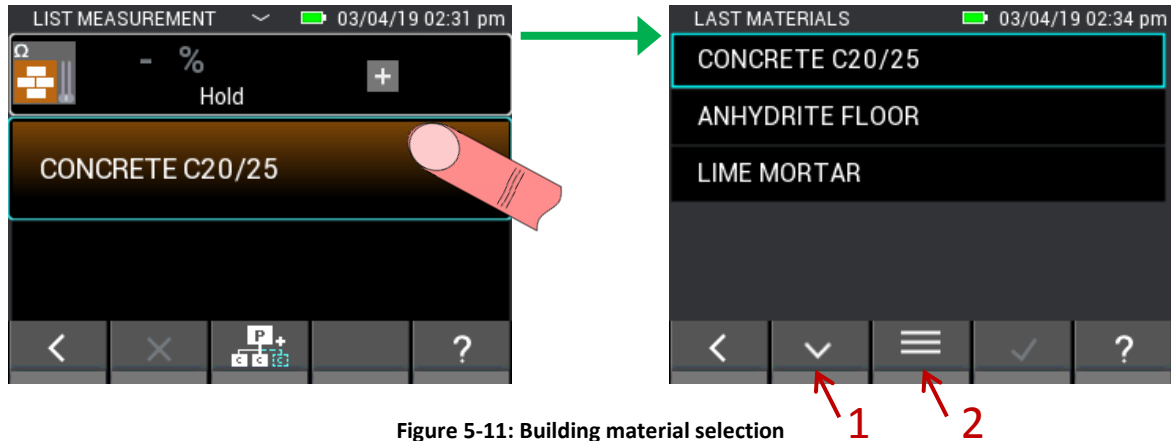

Figure 5-11: Building material selection
The building material can be selected from the building material selection screen. The already visible building materials in the building material selection are saved favourites and can be selected directly. With button (1) in Figure 5-11, the functions of the lower bar can be changed; button (2) is used to display the complete list of building materials.
If the functions of the lower bar are changed in the building material selection (Figure 5-11), buttons are displayed with the option (1) for keyword search and option (2) for editing the building material Favourites list.